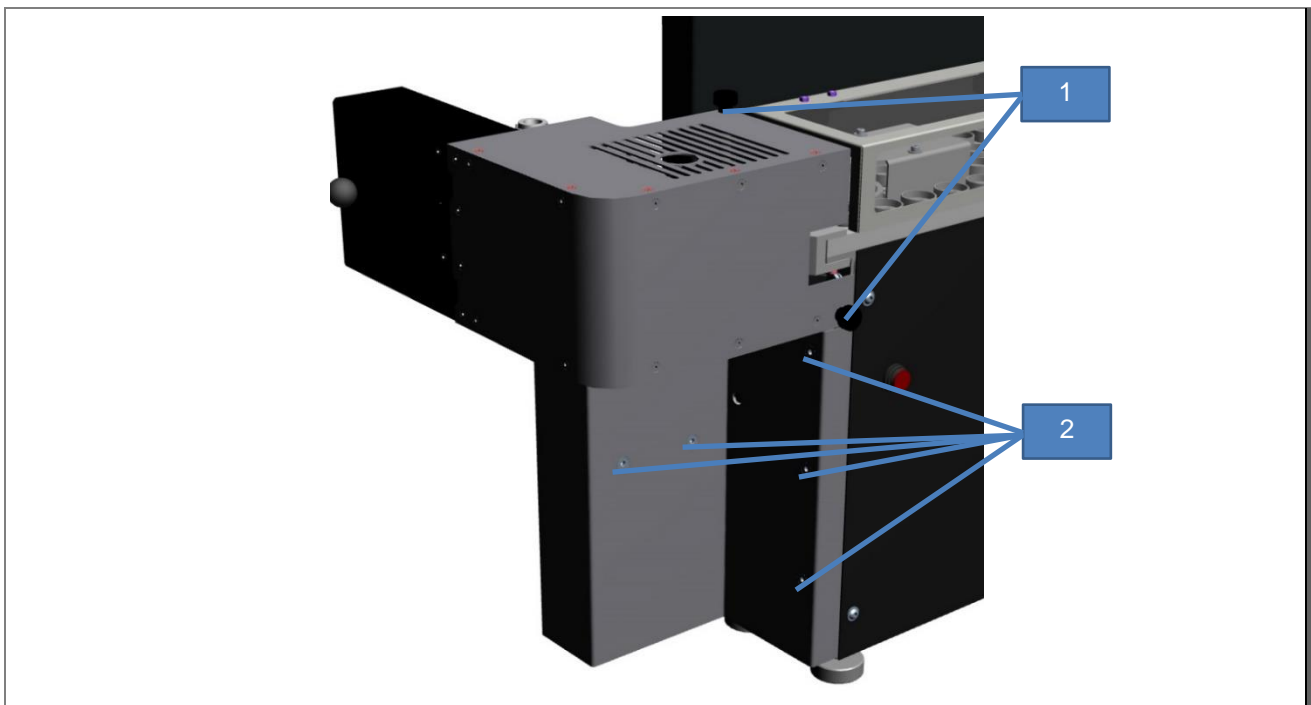

Fig. 8: Top/bottom cover
1. Remove the two screws **(1)** (see Fig. 8: Top/bottom cover).
1. Remove the two screws **(2)** (see Fig. 8: Top/bottom cover).